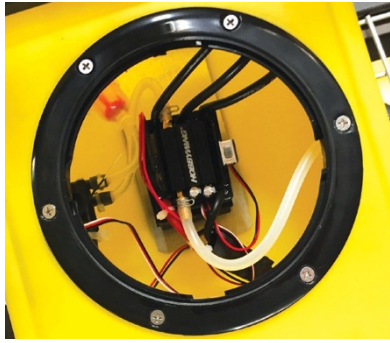

Figure 6—Rear access hatch: Futaba RCU 2-channel receiver, speed controller and internal component for the ON/OFF switch to the motor
A. REAR Access Hatch—Speed Controller Compartment: (See Figure 6)
Speed controller—should always be in the ON position (see Figure 6)
Futaba 2-channel receiver: (see Figure 6)